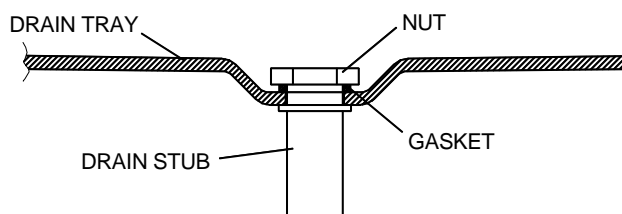

Fig.1
6. Remove the drain tray then fit the drain stub, nut & gasket (Fig.1). Refit the drain tray.